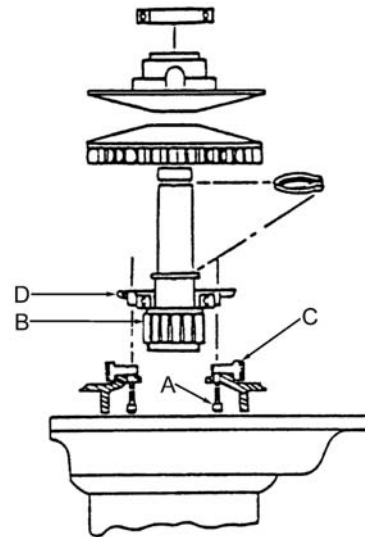

Figure 22: Brake shoe replacement
Refer to Figure 22.
7. Remove two screws (A, Figure 22).
9. Replace brake shoes (C).